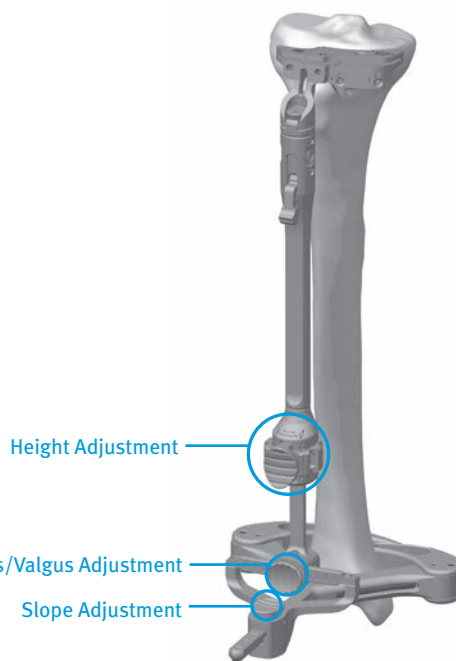

Fig. 18
- The buttons shown in **Figure 18** are used to adjust the following: varus/valgus angle of the cut guide, slope of the cut guide, the height of the cut guide. The height adjustment button can be depressed for macro-adjustment or the dial can be rotated for micro-adjustment.